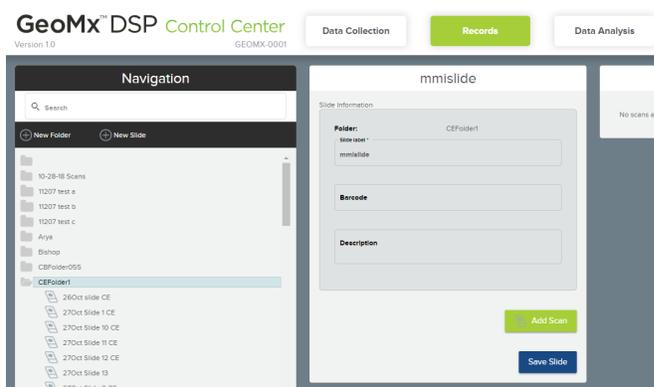

Figure 61: Records button and Navigation window
1. Select the **Records** button in the DSP Control Center (Figure 61).